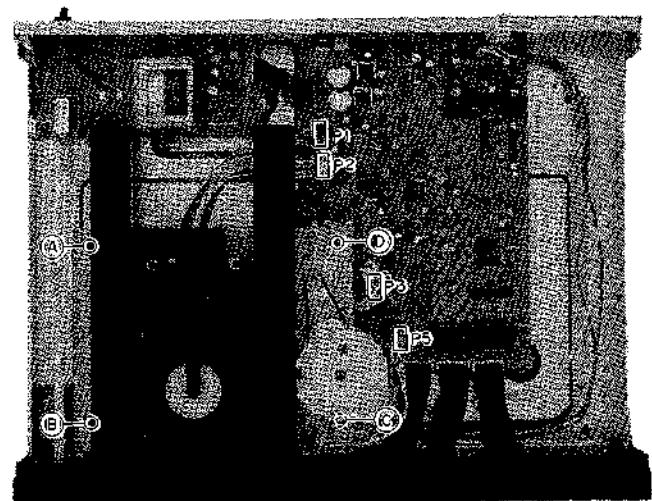

Fig. 5-2
- 3) Remove screws Ⓐ, Ⓑ, Ⓒ and Ⓓ. (Refer to Fig. 5-2)